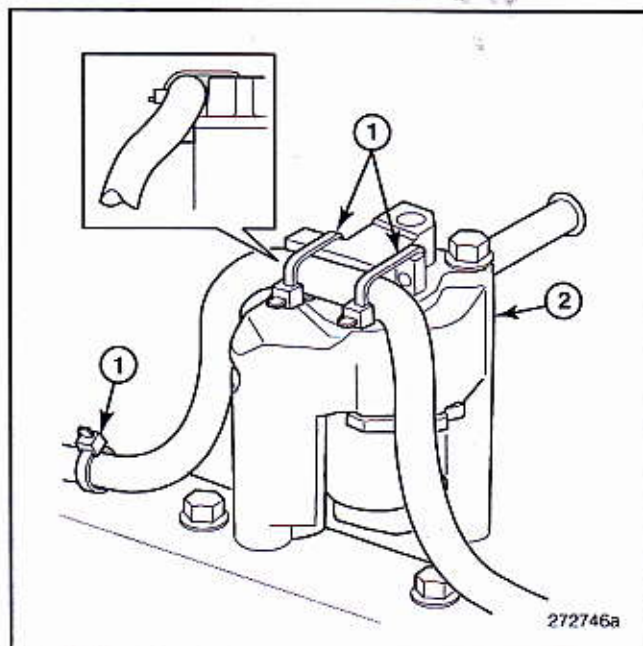

Figure 363 — Harness Routing Over Engine Brake Control Valve
6. If not previously done, carefully route the wiring harness over the engine brake control valve. Secure the harness to the control valve as shown in Figure 363. Make sure that the harness is positioned to the side of the boss at the top of the valve assembly.